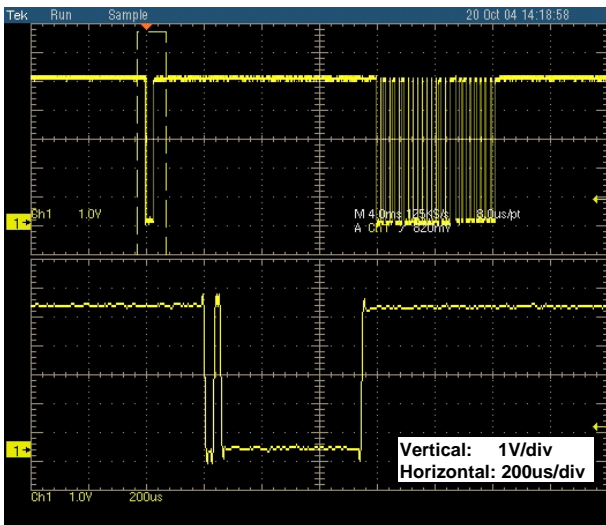

FIGURE 14. POWER-ON BREAK SIGNAL TO WAKE-UP THE ISL6296 FROM SLEEP MODE
that should be used only when the user knows for sure that the device is in the sleep mode. After the narrow break, the device will wake up and send back a break (Refer to the datasheet for more explanation of the narrow power-on break). Figure 14 illustrates the captured waveforms. If the user does not know if the device is in the sleep mode or is awake, the “regular break” option should be chosen, because the long break signal will still wake up a device in sleep mode, or will be ignored if the device is already awake. The send without a break signal can be an option if the user knows for sure that the device is not in the sleep mode.
signal is provided in the XSD Access tab as an option of the *Send* button. When this option is selected, the host sends out a 'power-on break' before sending the instruction frame. Figure 14 illustrate the two 'break' signals. The narrow one was sent by the host and the wider one was the one returned from the ISL6296 (approximately 480µs). From the 480µs 'break' signal, the BT can be calculated as
1. If the device is in the sleep mode, send a 'power on break' with a read instruction in the XSD Access tab to measure the returned 'break' signal for ISL6296, as shown in Figure 14.